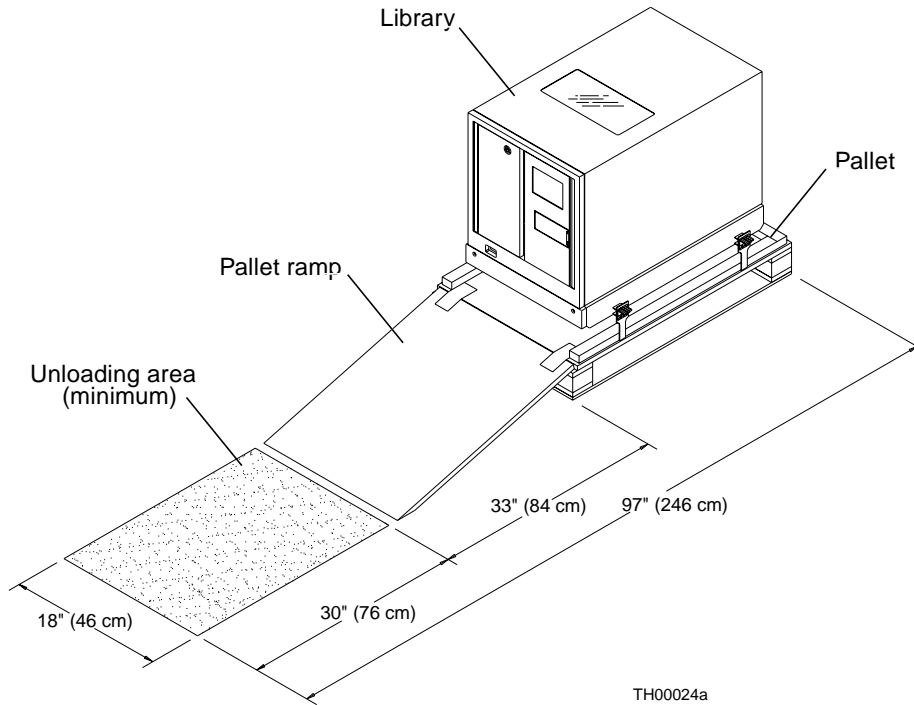

FIGURE B-10 Unloading Space Requirements (Stand-Alone Library)
2. For the stand-alone unit, allow a minimum of 63 inches (160 cm) in front of the ramp side of the pallet as shown in FIGURE B-10.